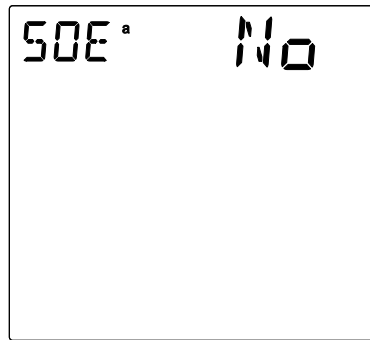
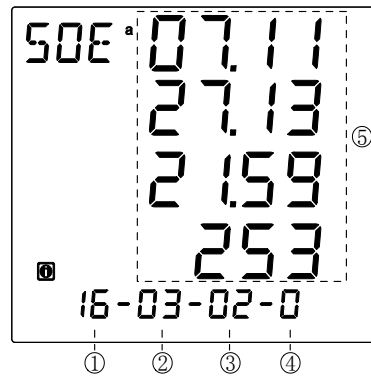

Fig 3-5-1 No SOE record
Fig 3-5-2 SOE record
If there is no SOE records in RAM, after entering inquiry SOE mode, the upper display shows "NO", as shown in fig. 3-5-1. If there is SOE records in RAM, The "①" sign is displayed in the lower left corner of the screen. After entering inquiry SOE mode, as shown in fig. 3-5-2:
④ Status of event. 0: “on” to “off” ; 1: “off” to “on”.
⑤ The time of the event occur. See in fig 3-5-2: the time of the event occurs is 2007-11-27 13:21:59 253ms